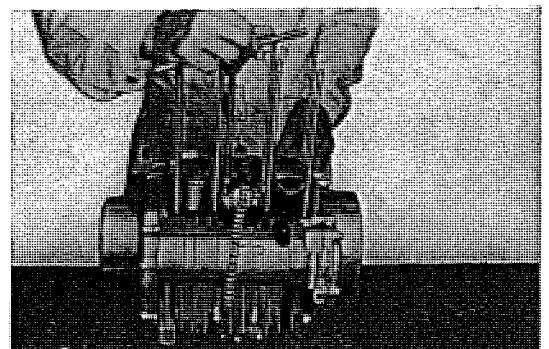

Fig. 3.109 Removing cam chain tightener
3. Remove the two 6×18 bolts mounting the cam chain guide roller and separate the cam chain tightener from the crankcase. (Refer to Fig. 3.109)